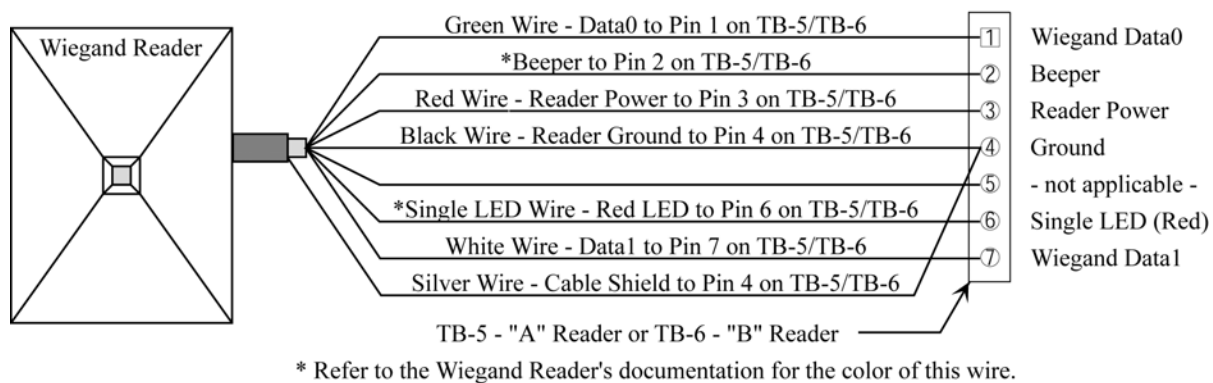

Figure 5: Single-Line LED and Essex Keypad Wiegand Reader Connections
*NOTE: The wire colors called out in Figures 5 and 6 are industry standard wire colors. However, some manufacturers may not follow these industry standard designations. Before installation, please refer to the Wiegand device's manual to see if the device's wire colors follow the industry standard. If not, then match the wire's purpose to the call outs in Figures 5 and 6 before installation.*